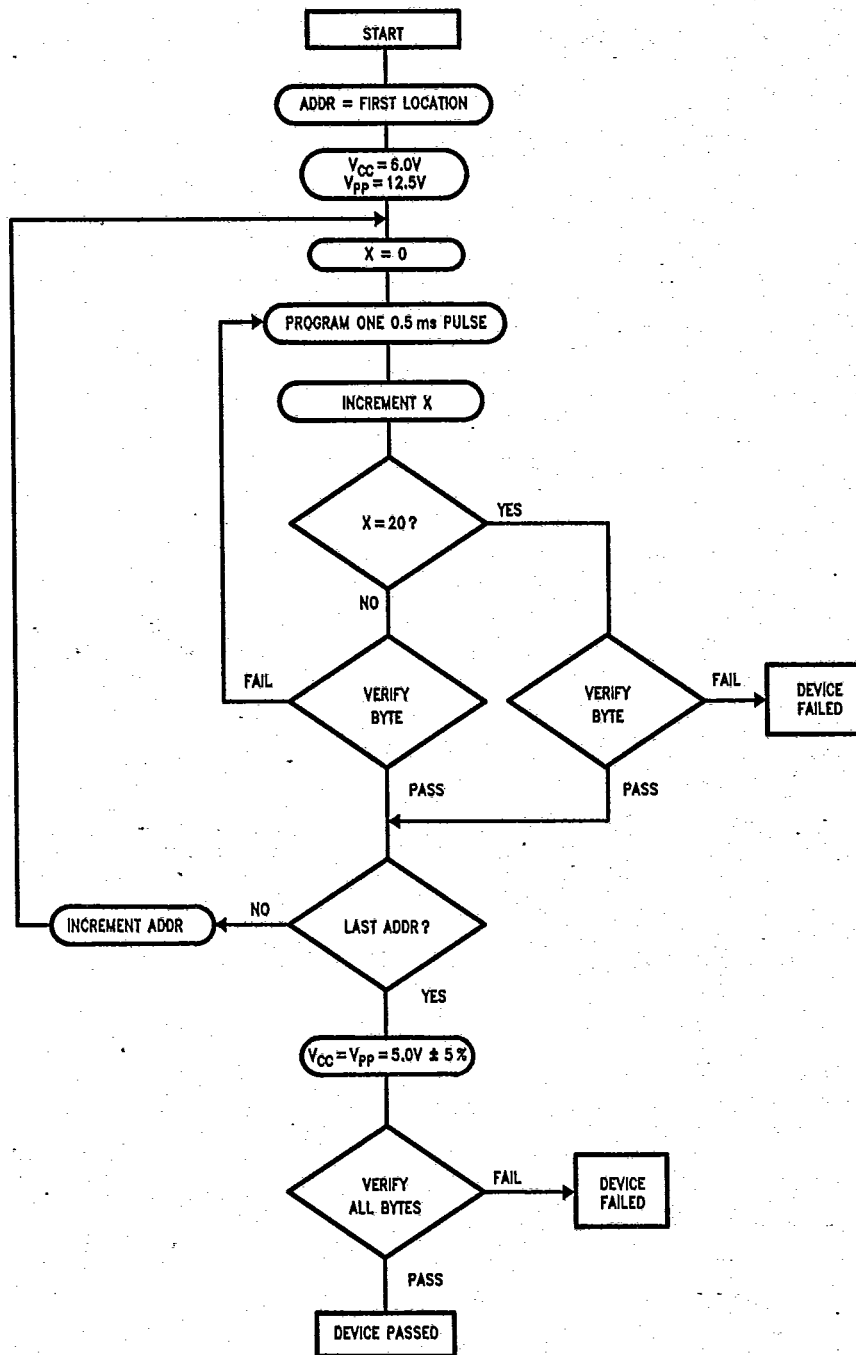

FIGURE 2
**Note:** Some program manufacturers due to equipment limitation may offer interactive program Algorithm (shown in Figure 2).